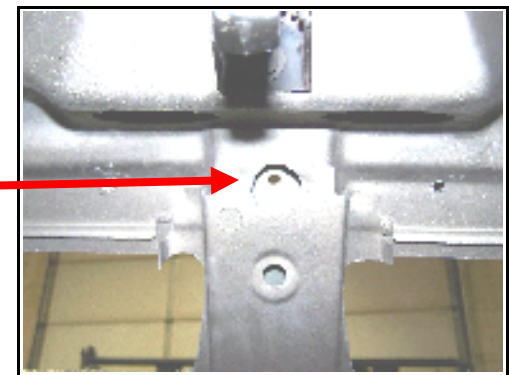

Figure 3
Step 7 - Continue to drill the rest of the perimeter holes with the 1/4" Bit. ****NOTE**** You will need to use the 1" hole saw to expand the center bottom hole under the hood in the support section in order to attach the nut to stud. See (Figure 3)